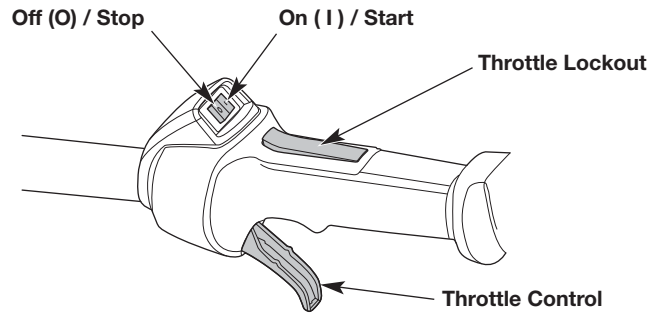

Fig. 8
NOTE: There is no need to turn the unit on. The On/Off switch is in the ON (I) position at all times (Fig. 8).
5. Press and hold the throttle lockout (Fig. 8). Squeeze and hold the throttle control (Fig. 8).
2. Press and hold the On/Off switch in the OFF (O) position until the engine comes to a complete stop (Fig. 8).
- NOTE:** There is no need to turn the unit on. The On/Off switch is in the ON (I) position at all times (Fig. 8).
6. Press and hold the throttle lockout (Fig. 8). Squeeze and hold the throttle control (Fig. 8).